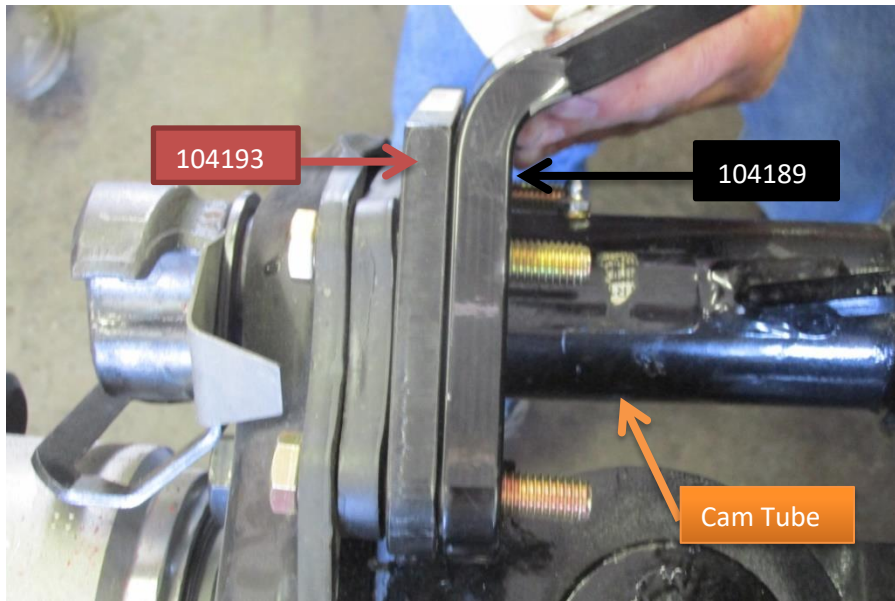
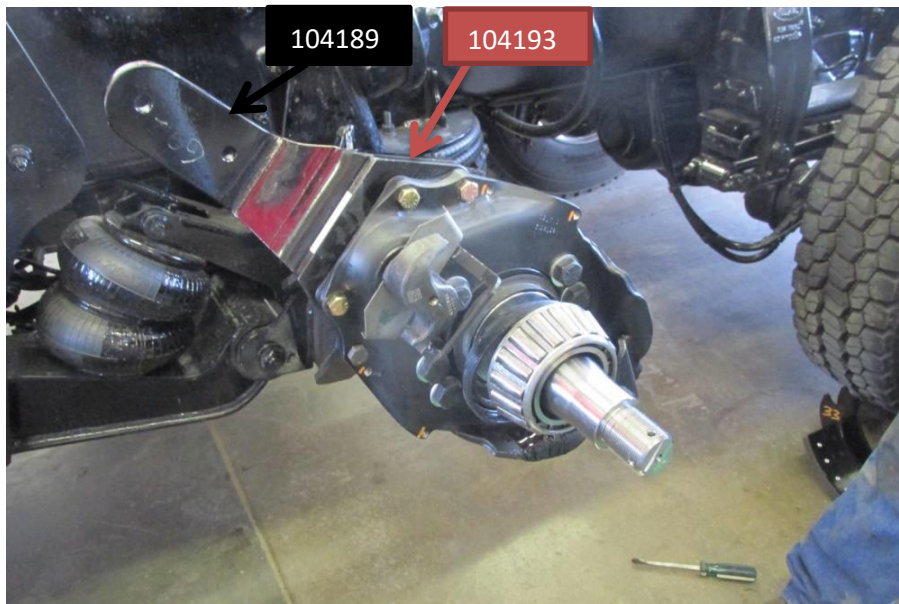

Figure 3 - Installing 104193 & 104189
Figure 4 - View of 104189 after installation
- At the front corner of the axle fit the offset mounting plate (104193) and fender bracket (104189) around the brake cam tube as shown in Figure 3 and Figure 4 below. Use the $\frac{1}{2}$ "-13 hex bolts and flange nuts provided in the kit and torque them to 117 ft-lbs.